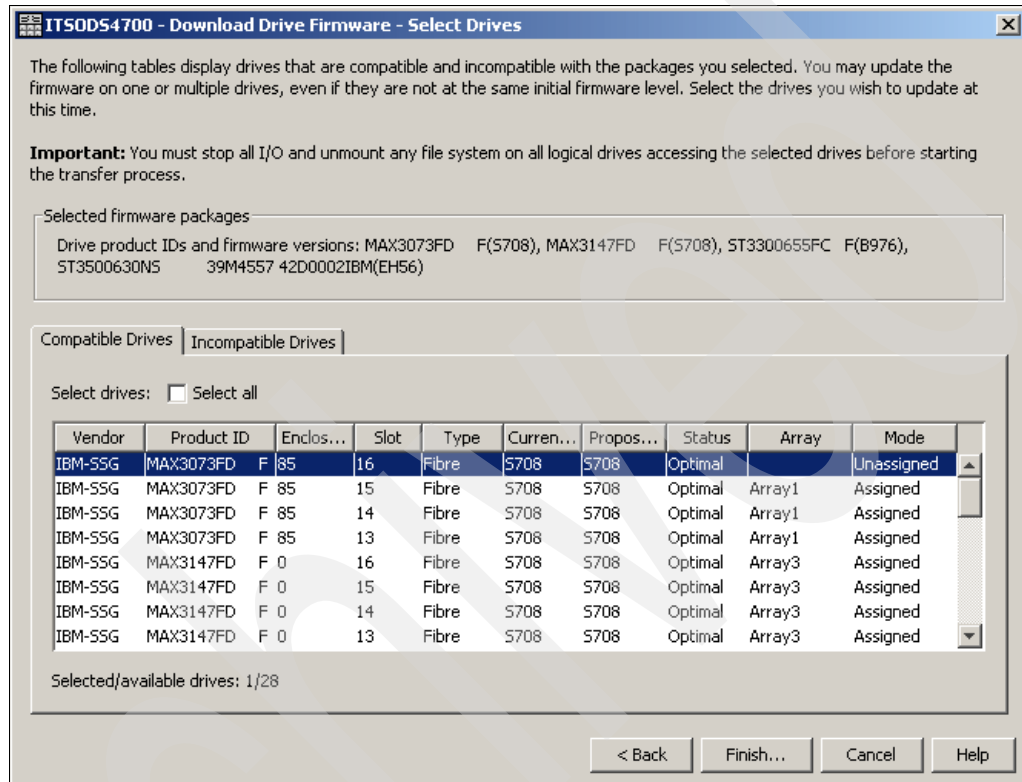

Figure 9-18 Drive firmware update: Select drives
- The next step is to select the down-level drives and mark them for update (see Figure 9-18).